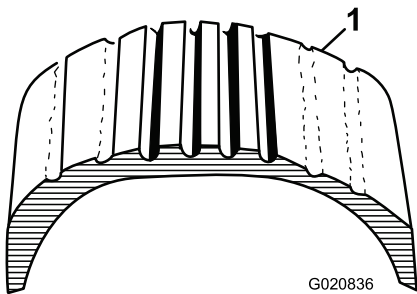
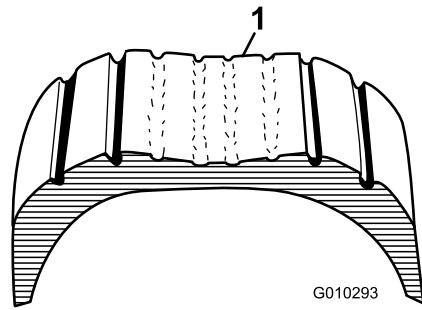

Figure 19
Figure 20
1. Visually inspect the tires for damage and wear (Figure 19 and Figure 20).